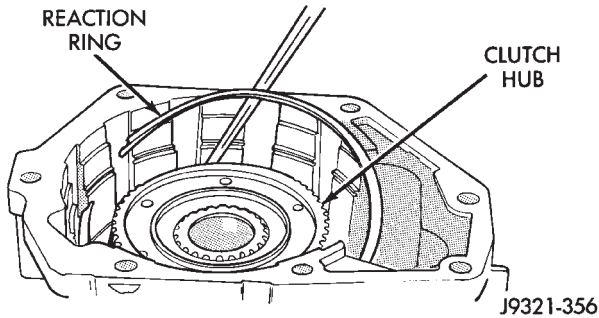

Fig. 63 Overdrive Clutch Reaction Ring Installation
- (1) Install overdrive clutch reaction ring first. Reaction ring is flat with notched ends (Fig. 63).